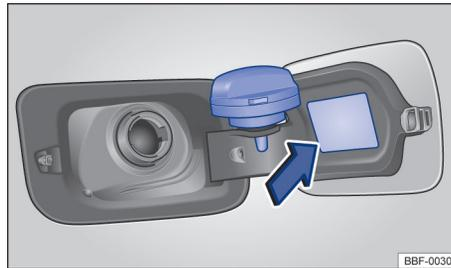

Fig. 149 Open tank flap with tank cap attached to the holder.
- Remove the tank cap rotating it counter clockwise and stow it into the holder on the tank flap → Fig. 149.